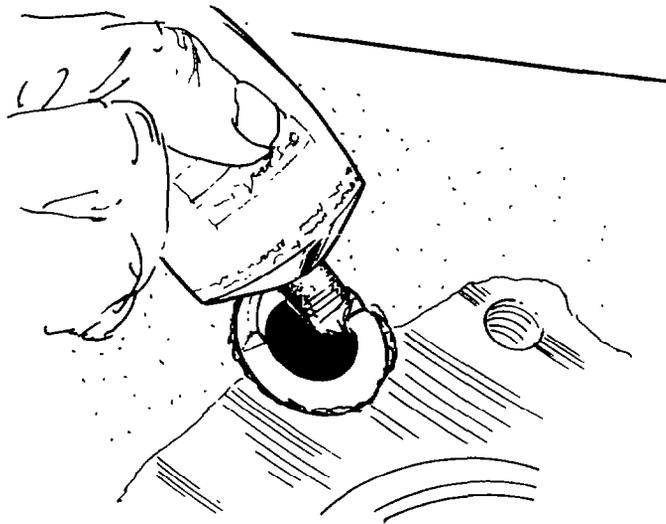

Fig. 192 — Applying Sealer Compound
- e. Apply silicone sealer around the end of the idler shaft, then install expansion plugs into the shaft bore (see fig. 192).